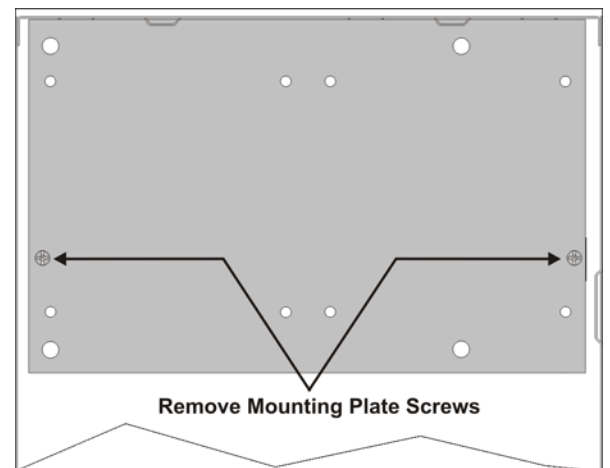

Figure 1: Cabinet Mounting Holes
3. Unscrewing the two mounting plate screws as shown in Figure 1 to remove the mounting plate.